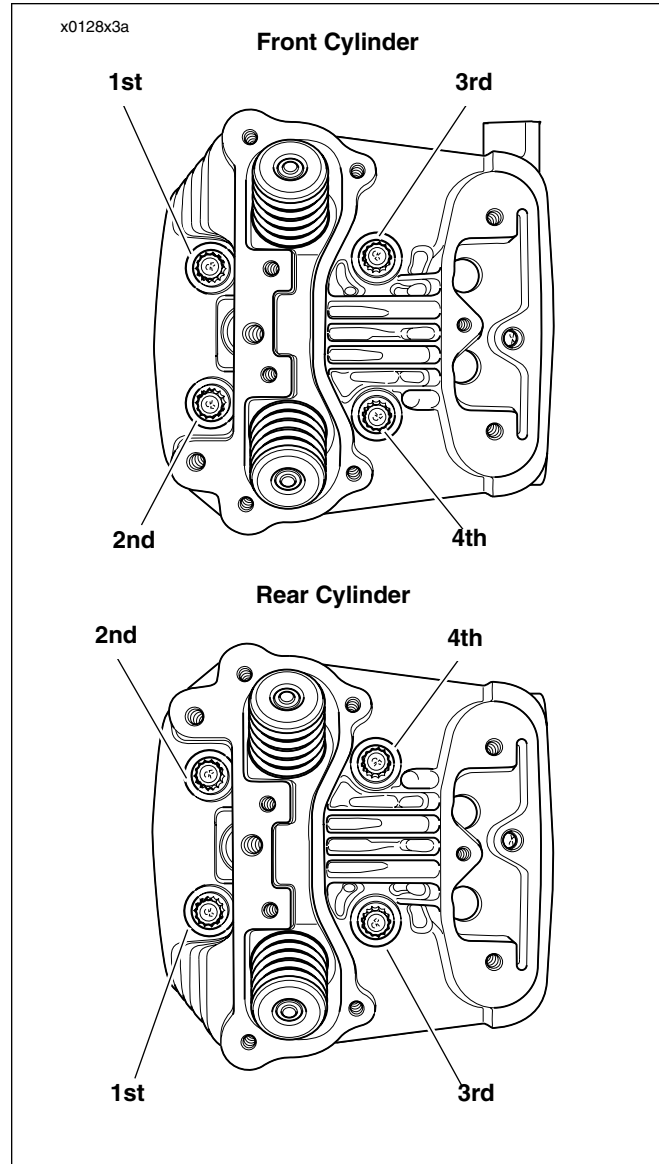

Figure 3-60. Head Screw Loosening/Tightening Sequence
See Figure 3-60. Distortion to the head, cylinder and crank-case studs may result if head screws are not loosened (or tightened) gradually in the sequence shown.
1. See Figure 3-60. Loosen each head screw 1/8-turn following the sequence shown.